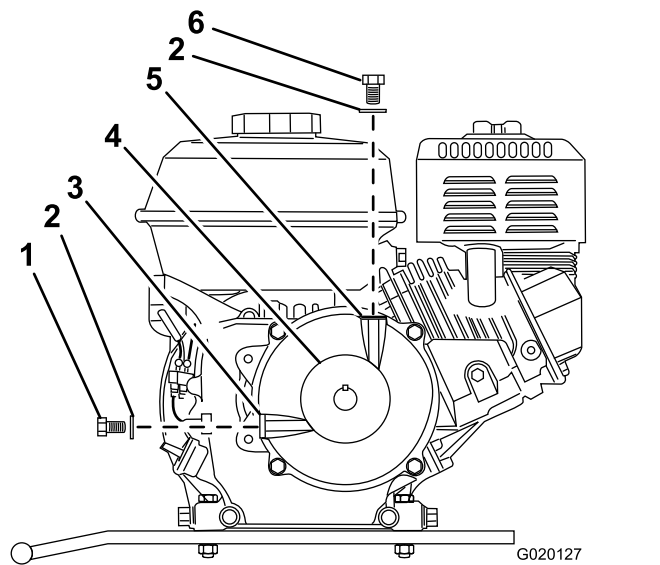

**Figure 58**
5. Locate the reduction case between the engine and the engine pulley (Figure 58).
7. Remove the oil-level-check bolt and washer from the oil-level port (Figure 58).
- A. Remove the filler bolt and washer from the filler port on the top of the reduction case (Figure 58).
- C. Install the filler bolt and the washer to the filler port of the reduction case, and tighten the filler bolt (Figure 58).
8. When the oil level is flush with the threads at the bottom of the oil-level port, install the oil-level-check bolt and washer to the port, and tighten the bolt (Figure 58).
11. Slowly pour the specified oil into the fill port until the oil level is level with the threads at the bottom of the oil-level port (Figure 58).